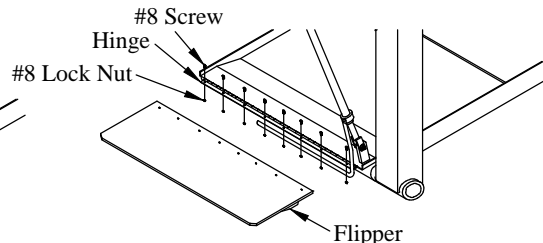

Figure 23: Flipper hinge hardware.
12. **Attach** the flipper to the hinge on the platform using eight (8) 8-32x1/2" screws and 8-32 nylon lock nuts (Figure 23).